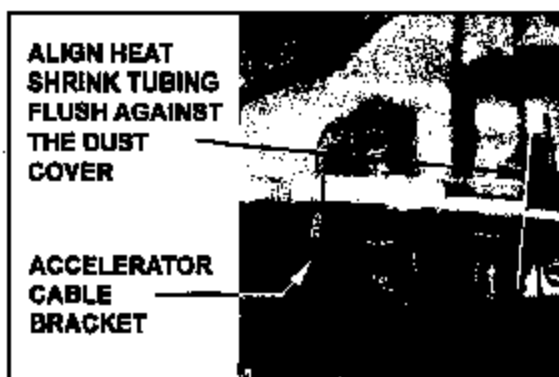

Figure 4
5. Slide the heat shrink tubing over the accelerator cable housing until the heat shrink tubing is flush with the end of the dust cover. Depending on the accelerator fitting, trimming may be necessary to set the tubing flush with the dust cover (see figure 4). **NOTE: Do not trim the heat shrink tubing unless the heat shrink tubing contacts the accelerator cable bracket and extends beyond the dust cover.**